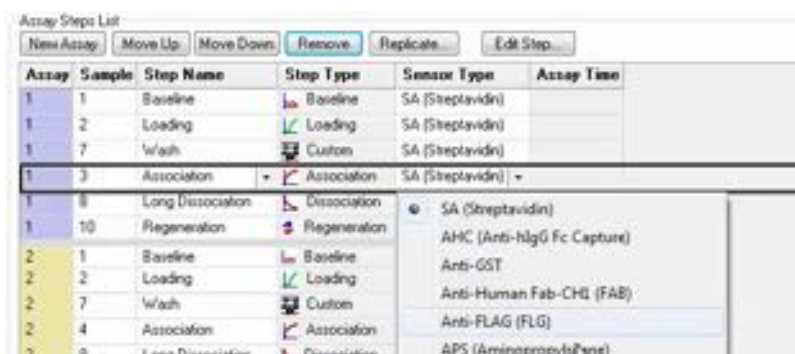

Figure 9-52: Assay Definition Window—Changing the Biosensor Type
3. Select from the drop-down list (see Figure 9-52).